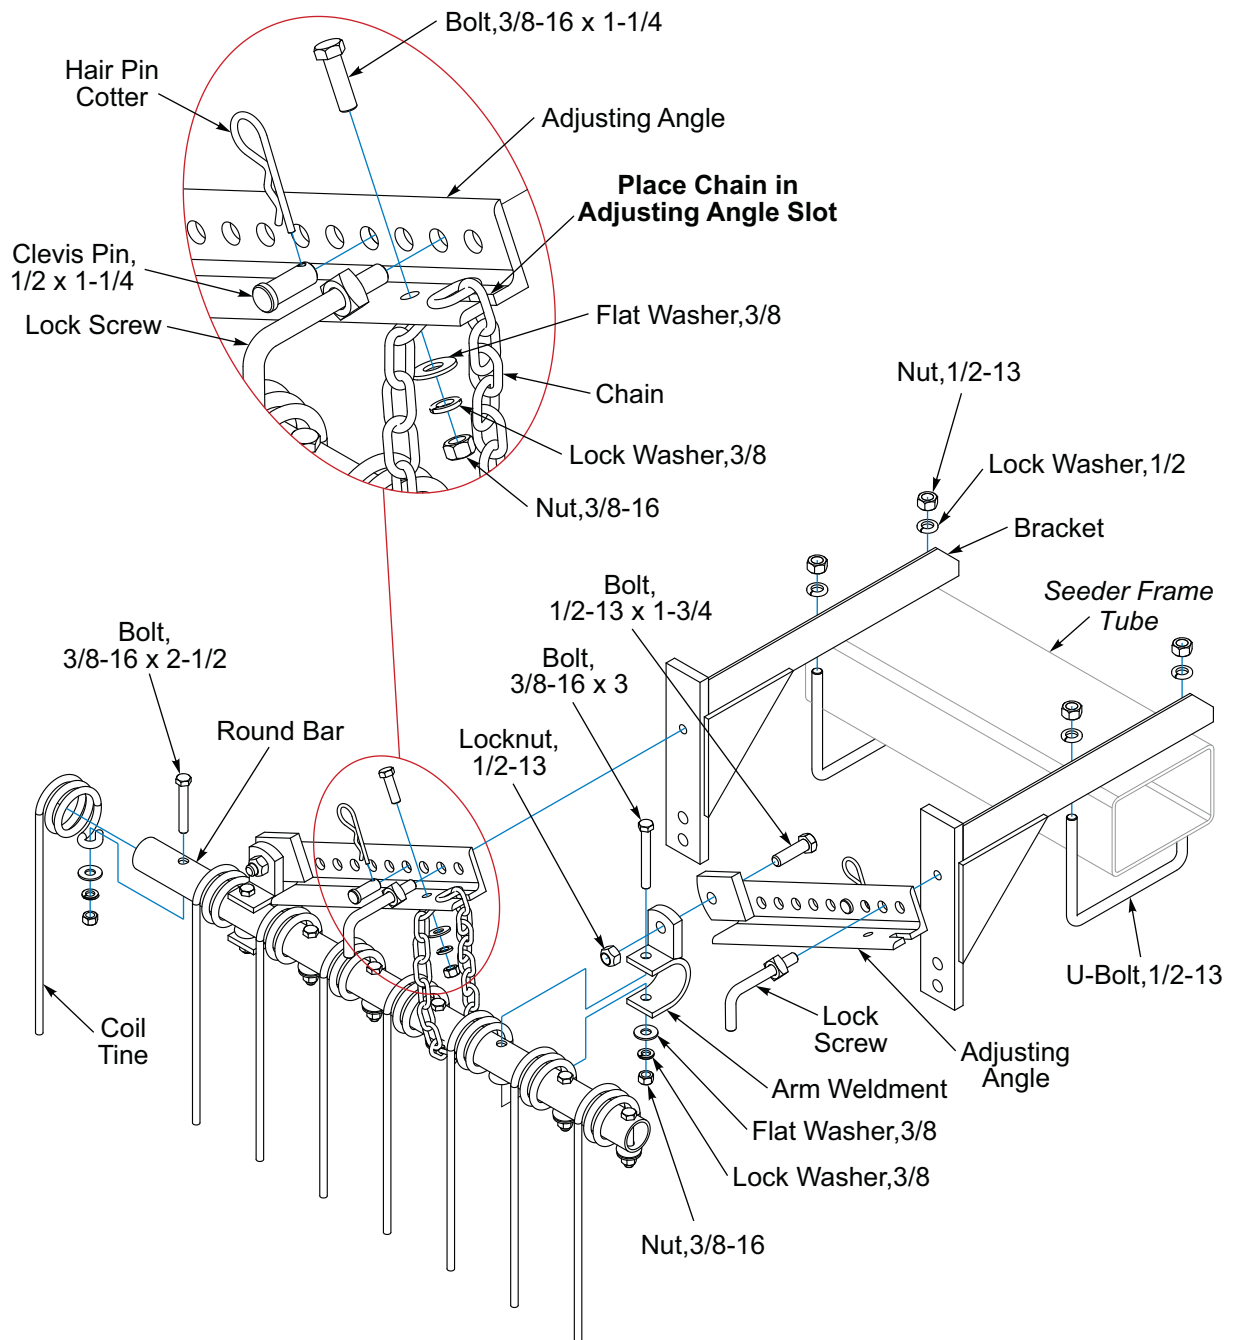

Figure 2-70: Coil Tine Setup
1. Slide the Coil Tines onto the Round Bar so that the straight leg is frontward. **See Figure 2-70.**